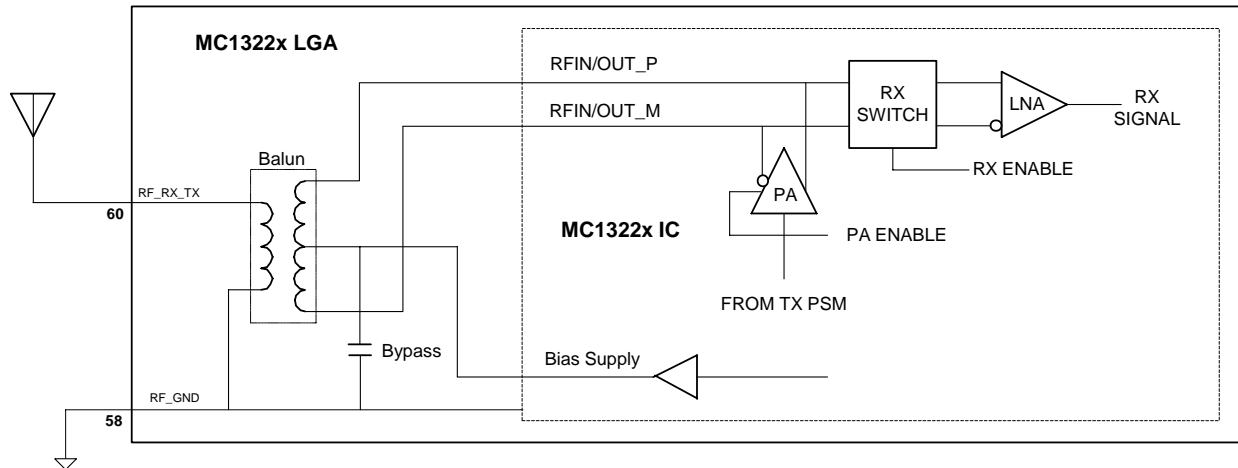

Figure 3-13. MC1322x Standard Single-Ended RF Connection
The MC1322x radio interface provides for lowest cost and highest integration as shown in Figure 3-13. The PiP concept in the LGA package contains components interconnected with the IC to provide the integrated RF network.
As shown in Figure 3-13, there is an integrated internal RX switch and separate differential PA on the IC. The IC signals RFIN/OUT\_P and RFIN/OUT\_M are bidirectional and are connected for both for TX and RX. When receiving, the RX switch is enabled to the internal LNA and the PA is disabled. When transmitting, the RX switch is disabled (isolating the LNA) and PA is enabled. The bias supply provides the reference voltage to the balun that converts a single-ended antenna to the differential interface required by the device.
- **RF\_RX\_TX** - as shown in Figure 3-13, this RF port has an in package balun that converts the single-ended external signal to a differential port at the device silicon. This differential port has an on-silicon LNA and a primary complementary PA that is automatically controlled for receive or transmit. This RF\_RX\_TX port can be used for RX, TX, or both. It is the only RX input however.